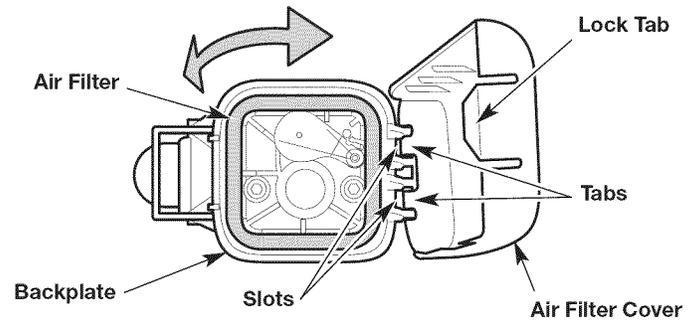

Fig. 14
1. Open the air filter cover: press in the lock tab and swing the air filter cover to the right (Fig. 14).
2. Remove the air filter (Fig. 14).
6. Reinstall the air filter (Fig. 14).
7. Close the air filter cover: insert the tabs on the air filter cover into the slots on the backplate. Swing the air filter cover to the left and press it closed until the lock tab snaps into place (Fig. 14).